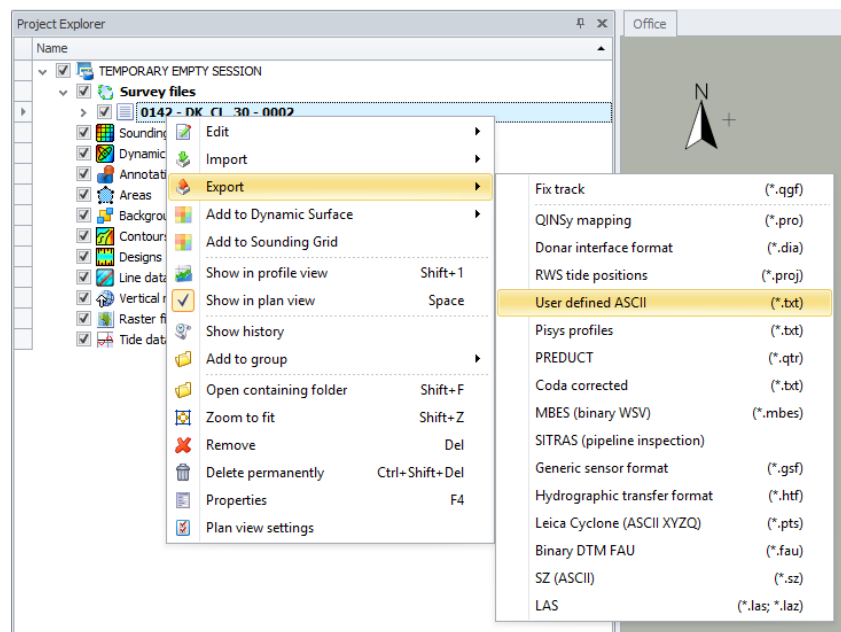

Figure 2.5 Export data from QPD files
5) After cleaning the data, save and close the Validator. Select the necessary files in the Survey files section in the Processing Manager (here you can upload files for several tacks, select only files corresponding to one tack), right-click on the selected files and click Export → User defined ASCII (Figure 2.5).